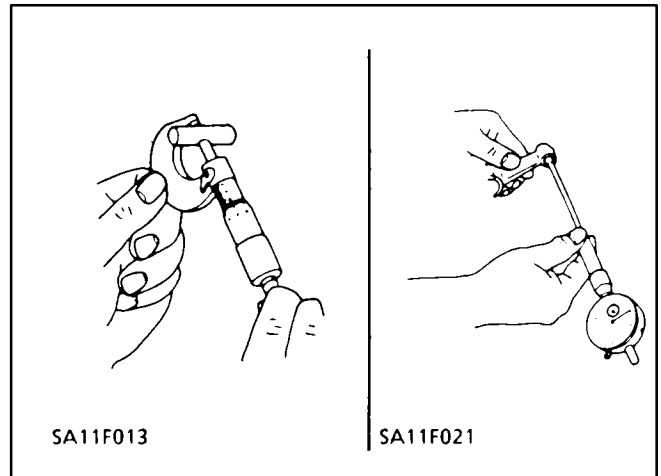

FIGURE 10-29. PISTON PIN AND CONNECTING ROD CLEARANCE
1. Measure the piston pin O.D. and connecting rod small end bore with a micrometer (Figure 10-29). Then calculate the difference.